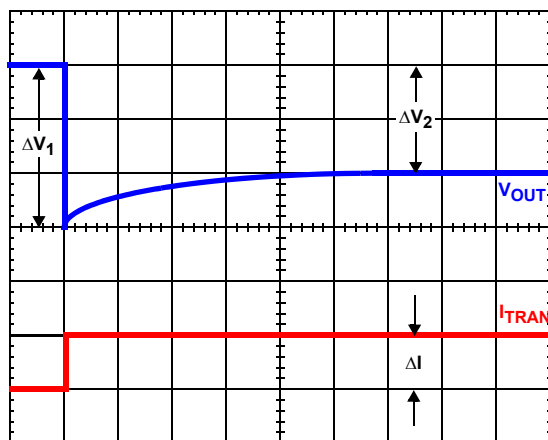

FIGURE 18. TIME CONSTANT MISMATCH BEHAVIOR
initial load transient spike, as shown in Figure 18. Follow the steps below to ensure the R-C and inductor L/DCR time constants are matched accurately.
2. Record  $\Delta V_1$  and  $\Delta V_2$  as shown in Figure 18.